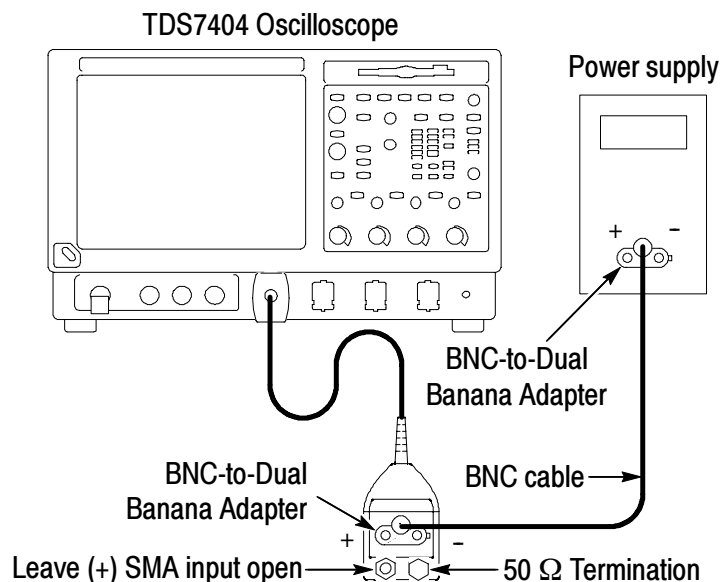

Figure 5: Probe DC termination check
11. Connect the power supply to the probe with a BNC cable and two BNC-to-dual banana adapters. The test setup is shown in Figure 5 on page 12.